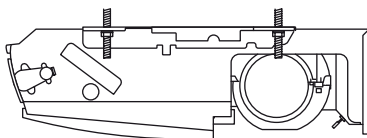

Fig. 3-15
c) Tighten the 2 hexagonal nuts on each suspension bolt to suspend the indoor unit as shown in Fig. 3-15.